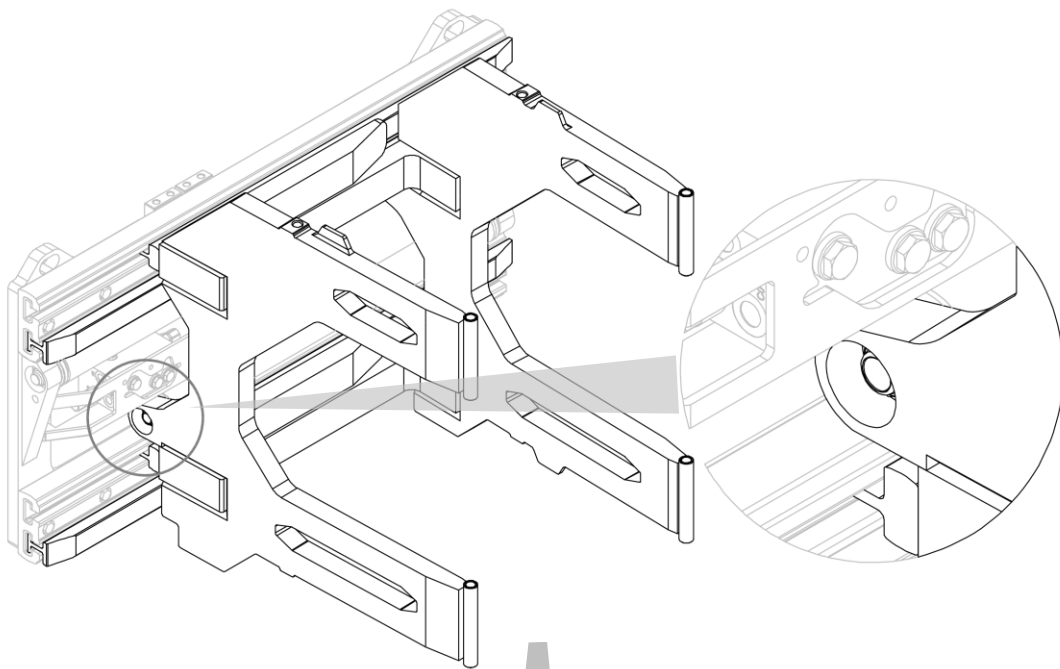
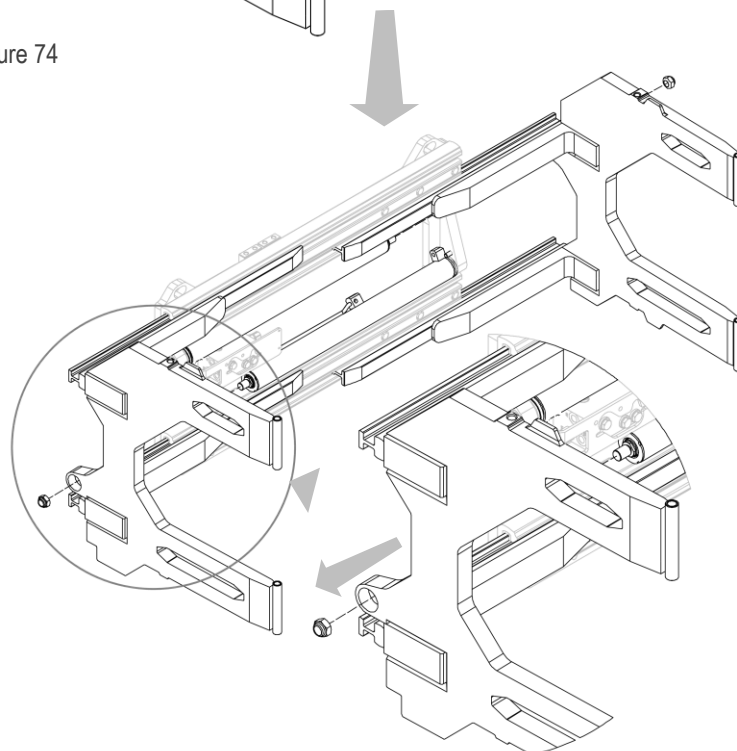

Figure 74
Figure 75
3. Remove the forks one at a time from their respective housings, after removing the nuts that secure them to the cylinders (see *Figure 74* and *Figure 75*).